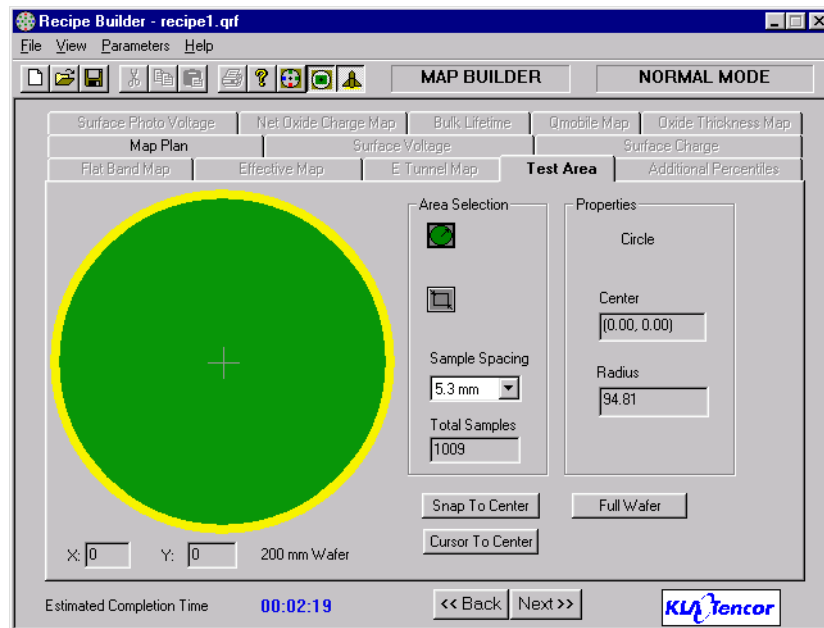

Figure 3-13: Test Area
1. Confirm that the wafer size displayed below the wafer graphic on the Test Area tab (Figure 3-13) is correct.